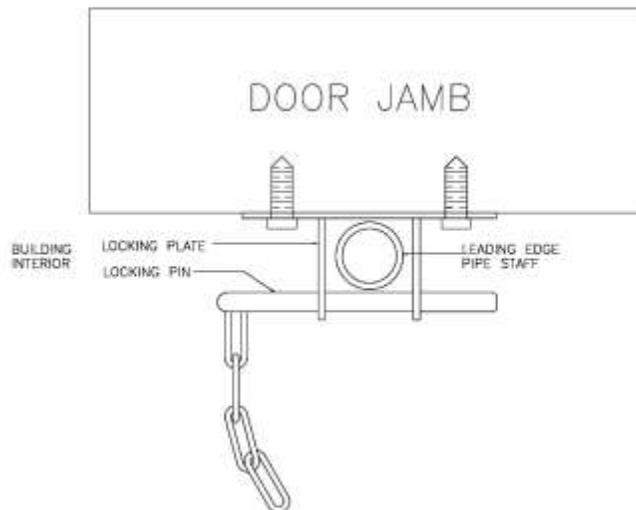

FIGURE 4
8. Close the curtain and line up the pipe staff locking bracket with the opening in the leading edge pipe staff pocket. Fasten the pipe staff locking bracket to the jamb. (**See Fig. 4**).